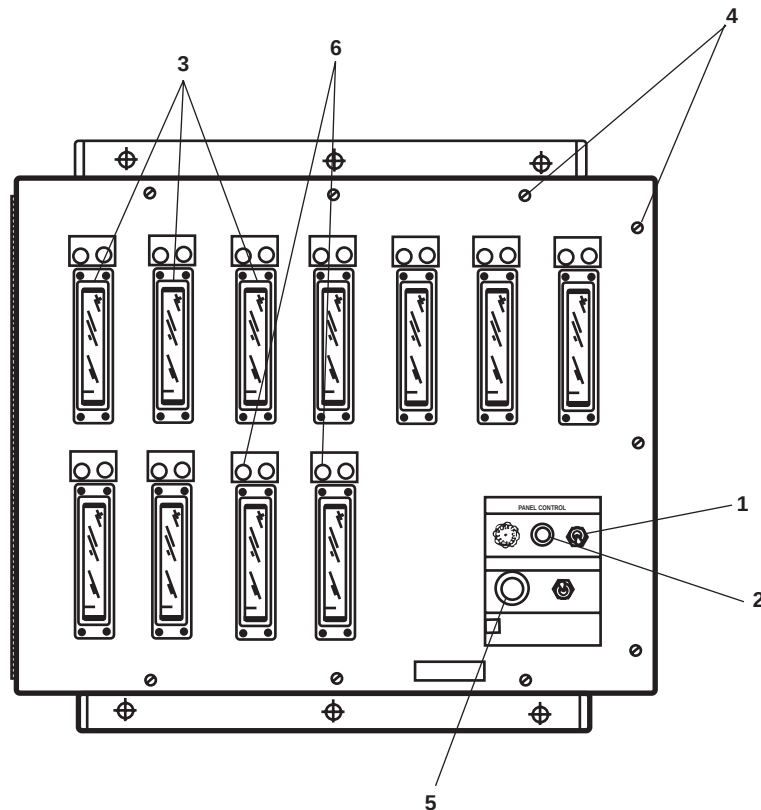
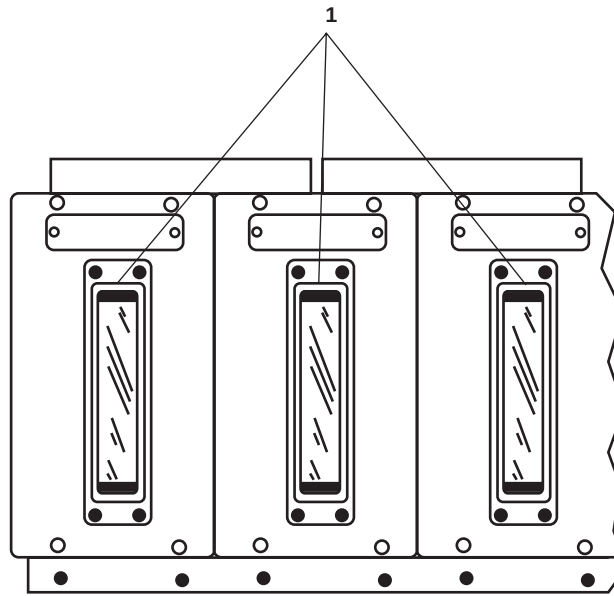
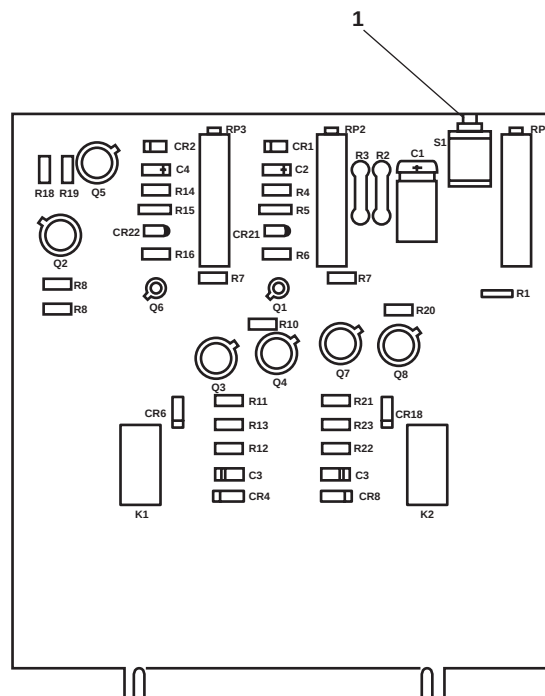

Figure 1. 11 Channel TLI Control Panel
Figure 3. TLI Remote Receiver Module
Figure 4. Control Module Circuit Card
1. Set to OFF the ON-OFF switch (figures 1 and 2, item 1) on the Tank Level Indicator (TLI) control panels in the EOS. Verify that the POWER lamp (figures 1 and 2, item 2) is out.
2. Verify that all fluid meters on the control panels (figure 1, item 3) and at the remote receiver modules (figure 3, item 1) deflect to 0.
3. Set to ON the ON-OFF switch (figures 1 and 2, item 1) on each control panel. Verify that the POWER lamp (figures 1 and 2, item 2) illuminates.
4. Loosen the captive screws (figure 1 or 2, item 4) and open the front panel of the TLI control panel.
5. Locate, press, and hold the CALIBRATE pushbutton switch (figure 4, item 1) on each control module in the receiver panel, in turn.
6. While a CALIBRATE pushbutton switch (figure 4, item 1) is pressed, verify that the selected control panel fluid level meter (figures 1 and 2, item 3) and the associated remote fluid level meter (figure 3, item 1) deflect to the full-scale position.
7. If the control module containing the CALIBRATE pushbutton being pressed contains a high level alarm circuit, verify that the alarm horn (figure 1, item 5) sounds and the associated HIGH ALARM lamp (figure 1, item 6) illuminates when the CALIBRATE pushbutton switch (figure 4, item 1) is pressed.
8. Release the selected CALIBRATE pushbutton switch (figure 4, item 1).